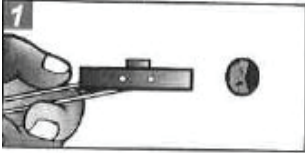

Figure 4.3.1
4.3.1 Drill a 7/16" hole in the cab shell at each panel hole location as shown in **Figure 4.3.1**. Hold metal channel flat alongside plastic straps and slide channel through pre-drilled hole.